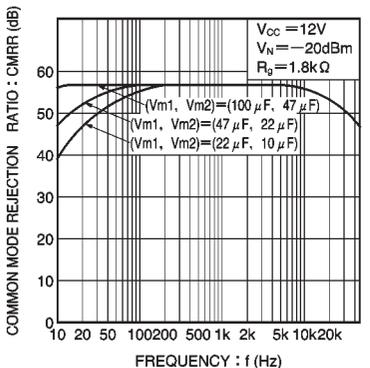

Fig. 16 Common-mode rejection ratio vs. frequency
- (1) Maintain a ratio of 2: 1 for the values of the capacitors connected to pin 2 ( $V_{m1}$ ) and pin 6 ( $V_{m2}$ ) to keep the ripple rejection ratio stable. If this ratio is maintained, the ripple rejection ratio will not vary significantly even if the capacitance values are halved.
- (2) If the value of the capacitor connected to pin 2 ( $V_{m1}$ ) in the example is doubled, the bass-region CMMR will be +6dB, and if it is halved, it will be -6dB (see Fig. 16).